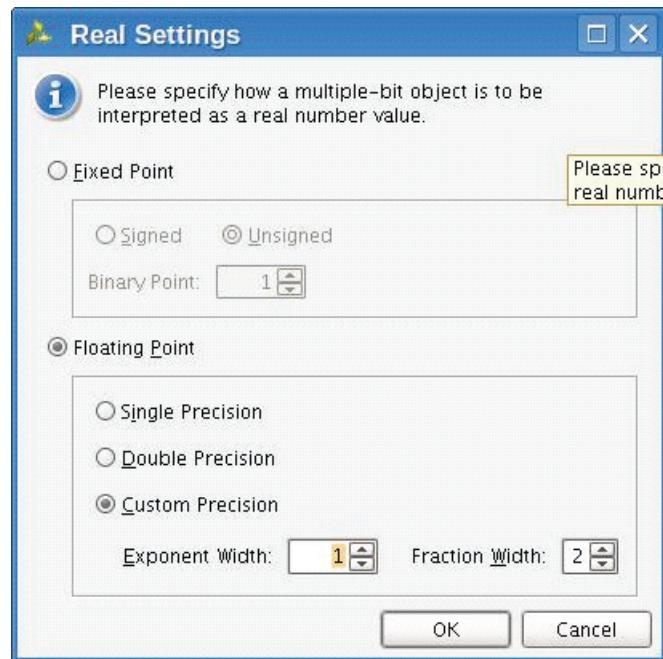

Figure 6-3: Real Settings Dialog Box
- Real radices cause bus values to be interpreted as fixed point or floating point real numbers, as determined by the settings of the **Real Settings** dialog box, shown in Figure 6-3, page 78.